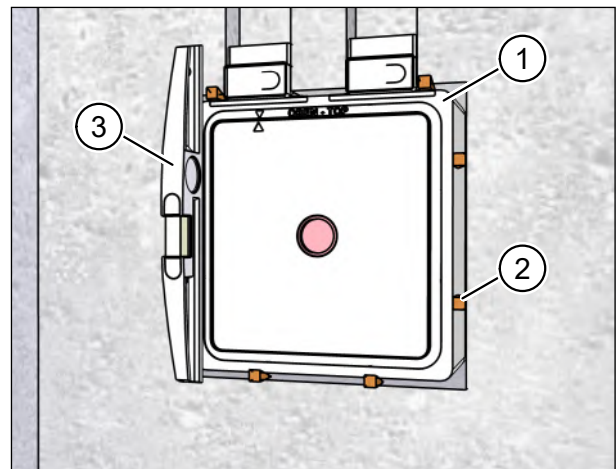

Fig. 19: Fixing the wall box
- ▶ Fix the wall box (item 1 in Fig. 19) in position in the wall breakthrough using wedges or air cushions (item 2 in Fig. 19) on both the inside and the outside.
- ▶ Use the spirit level (item 3 in Fig. 19) to align the wall box so that it is perpendicular and flush with the wall.